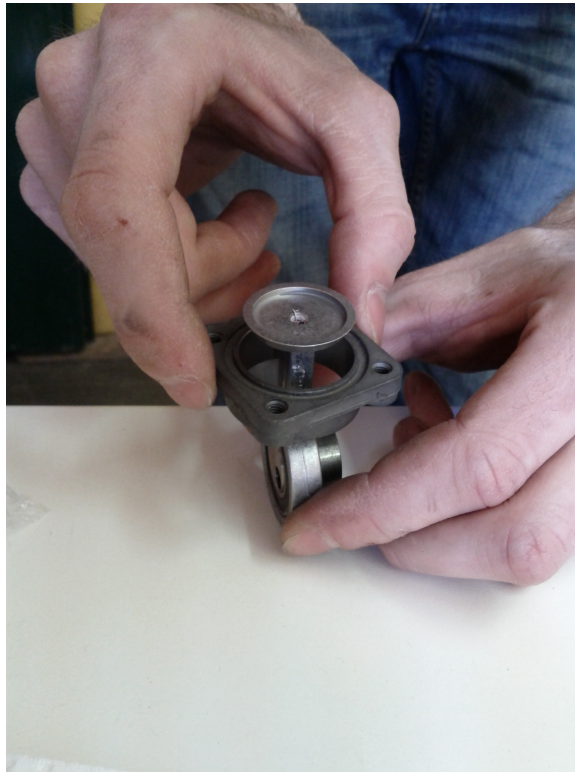

Figure 3.12: Reconstruct the con rod - part 1
1. Reassemble the con rod with the spare parts of your "Pump Rebuild Kit". Start by putting the new bottom part over the con rod, see figure 3.12.